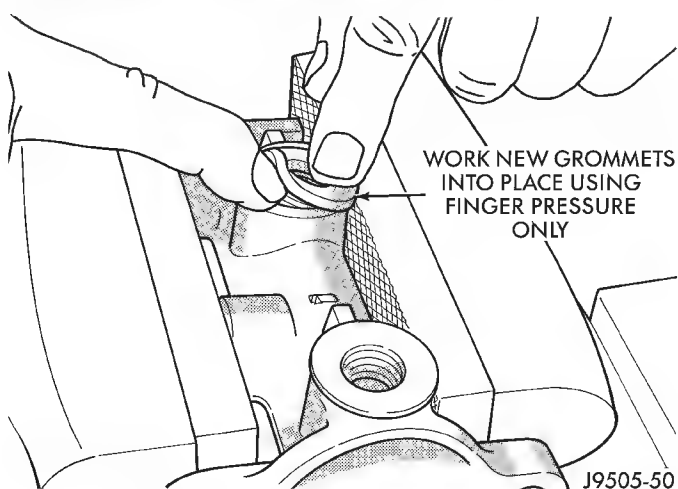

Fig. 21 Grommet Installation
(7) Lubricate new grommets with clean brake fluid.
(8) Install new grommets in cylinder body (Fig. 21). Use finger pressure only to install and seat grommets.